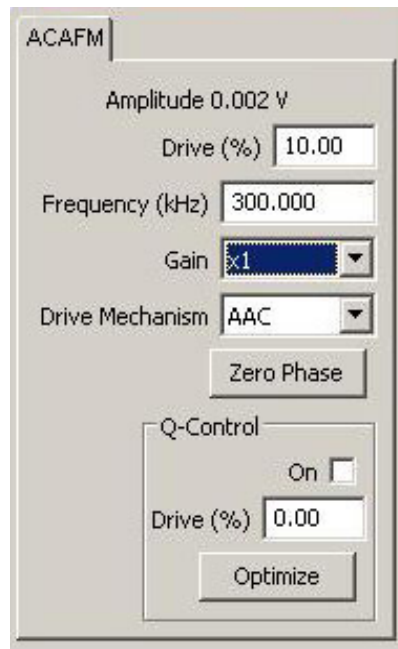

Figure 81 ACAFM Controls window
- 5 Choose **Controls > AC Mode** to open the ACAFM Controls window (Figure 81).